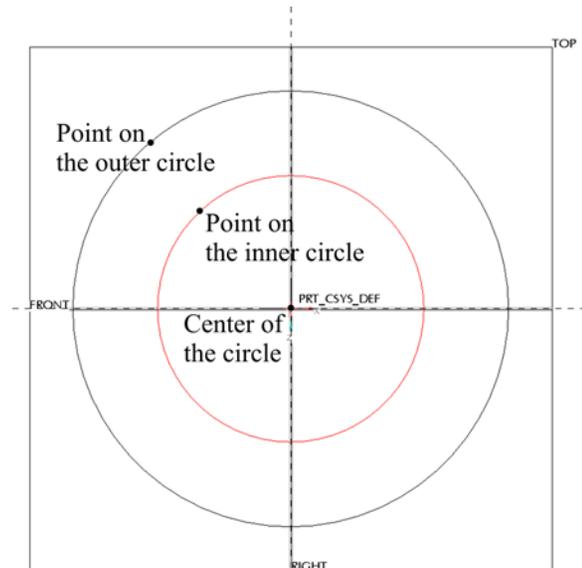

Fig. 2.11.
10. Create an inner circle.	<p> Circle → Select the center of the circle as the intersection of the FRONT and RIGHT datum planes → Select a point to define the inner circle</p> <p>Refer to Fig. 2.11.</p>